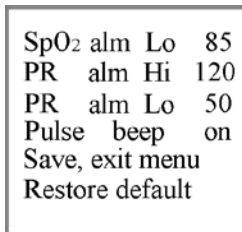

Figure 5 Menu Screen
6. “Restore default”: Restore default setting. Refer to Figure 5 for each default value.